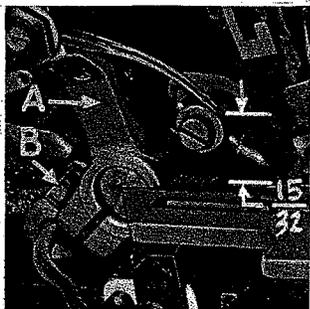

Fig. 4
With throat plate in position, needles should center in the front end of needle slot. When needles are at high position, the needle points should be set  $\frac{15}{32}$  inch above throat plate (Fig. 4) for 39500 AC.
For 39500 AB, 39500 AE the needle points should be set  $7/16$  inch above the throat plate. Move needle driving arm (A, Fig. 4) by loosening clamp screw (B). Remove throat plate.